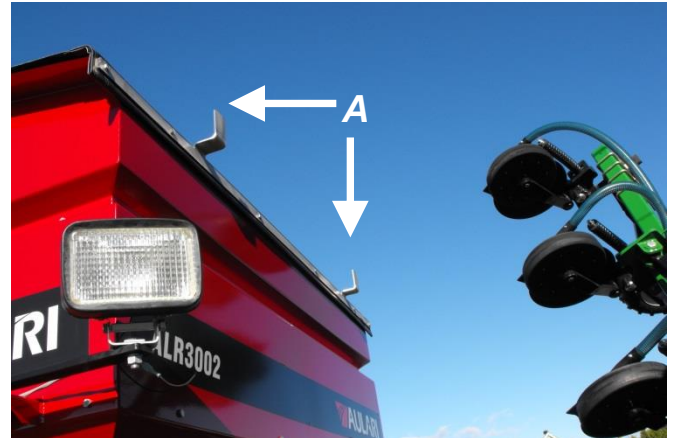

Figure 15B
- 4. To open the tarp of your distributor: Turn the tarp wheel clockwise and lift the tarp lock latch [Figure 15A, **A**]. Then release the wheel down. Roll the tarp on itself using the tarp wheel to the tarp stopper at the other end of the hopper [Figure 15B, **A**].